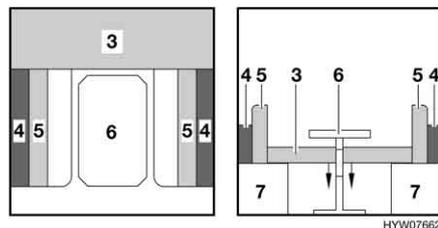

Fig. 102 During conversion
- Place the seat cushions (Fig. 102,5) in an upright position.
- Convert the table (Fig. 102,6) to a bed foundation (see section 6.12).